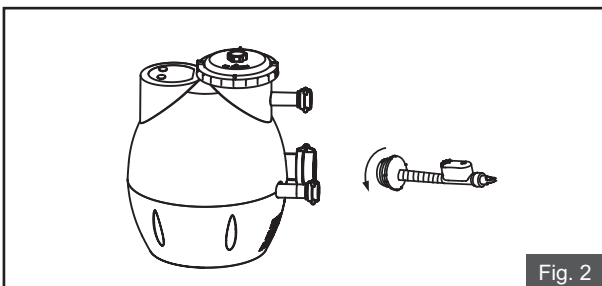

Fig. 2
2. Connect the inflation hose to adapter A on the pump. (See Fig. 2)